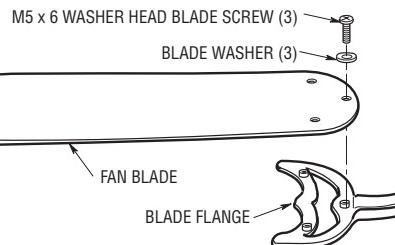

Figure 7
9. Mount blade flanges to fan blades using three M5 x 6 washer head blade screws and three blade washers (Figure 7).